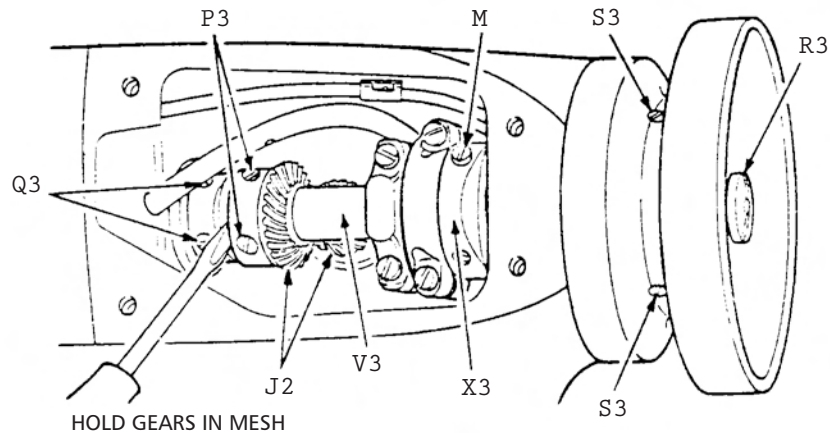

Fig. 31
REPLACEMENT (See Fig. 31)
3. While still holding the bevel gears at J2 in mesh, with a screwdriver, as shown in Fig. 31, push the arm shaft V3 straight through the machine arm, thrust collar, bevel gear, and feed and feed lifting eccentric X3. When installing the new arm shaft, make certain that every care is taken to avoid injury to the ring and the oil seal in the arm shaft bushing (back).
7. Place the first finger of one hand on one side of the arm shaft and the first finger of the other hand on the other side of the arm shaft so that both fingers contact the bevel gear (on vertical shaft) that mates with the gear J2, Fig. 31. Feel for slight backlash. If there is no backlash, loosen two set screws P3. Lightly tap bevel gear away from mating gear until there is just a slight amount of backlash. Then securely tighten set screws P3 in bevel gear. Re-check the backlash.